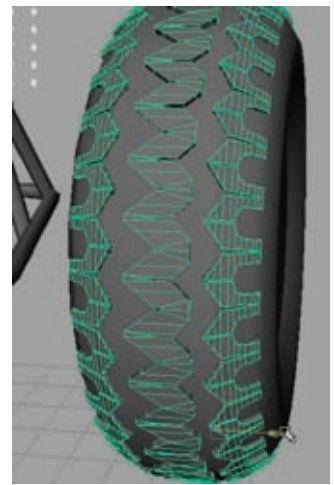

Figure 4.17
19. Once you have all the tread detail you want, position it on the wheel the way you like it. I placed my first tread along the middle of the wheel with the edge tread on either side, positioned so that the pointed ends fit into the concave ends of the adjacent pieces (as shown in Figure 4.17).